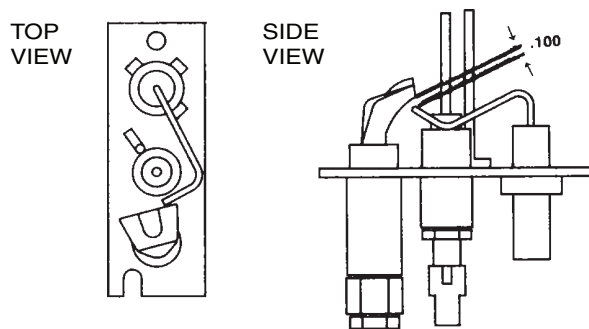

Figure 35. Pilot Assembly Spark Gap
4. Check the spark gap (see Figure 35), which should be maintained to 0.100 inch (2.5 mm).
- c. Verify that pilot spark gap (see **Figure 35**) is approximately 0.100 inch (2.5 mm).